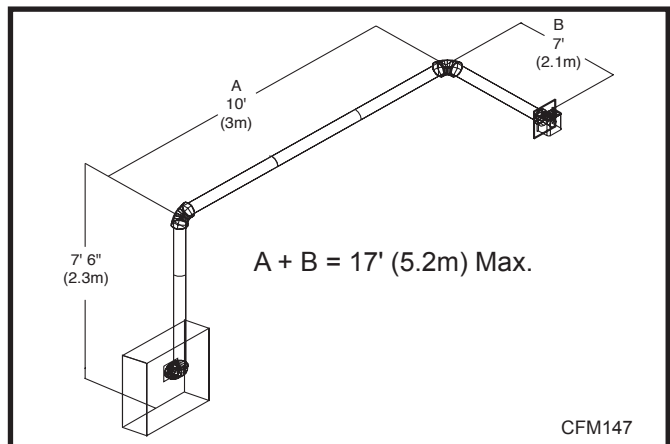

Fig. 20 Maximum vent run with elbows.
- If a 90° elbow is used in the horizontal vent run (level height maintained) the maximum horizontal vent length is reduced by 36" (914 mm) (Fig. 20) This does not apply if the 90° elbows are used to increase or redirect a vertical rise.